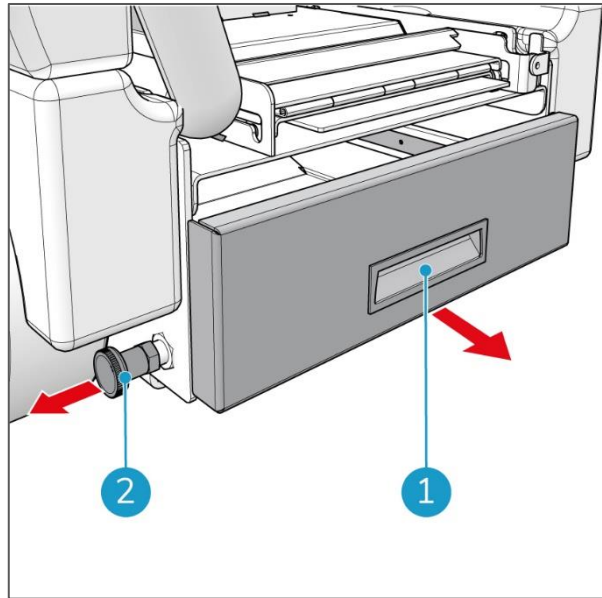

Figure 65
2. Pull out the locking pin on the left side (Figure 65, pos 2) of the battery drawer.
3. Pull out the battery drawer using the black handle (Figure 65, pos 1) until it locks into place.
7. Pull out the locking pin on the left side (Figure 65, pos 2) of the battery drawer.
8. Push the battery drawer into the CO-BOTIC 65™ by the black handle (Figure 65, pos 1) until it locks into place.